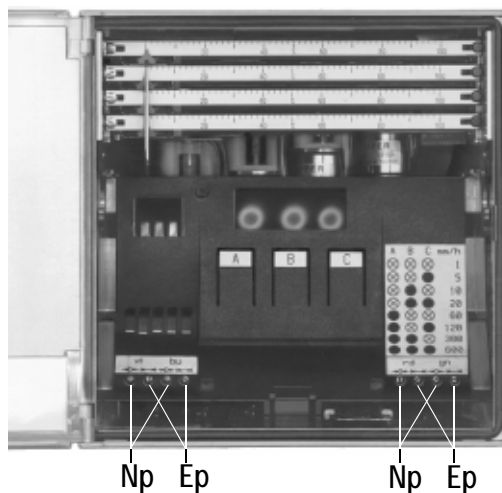

Figure 16 Display and control panel with potentiometer
3.2 Set zero and calibrate the upper range limit (see figure 16)
The left potentiometer is for zero setting and the right potentiometer for calibration of the upper range limit (see figure 16). For zero setting, a bipolar voltage and/or current generator is required.